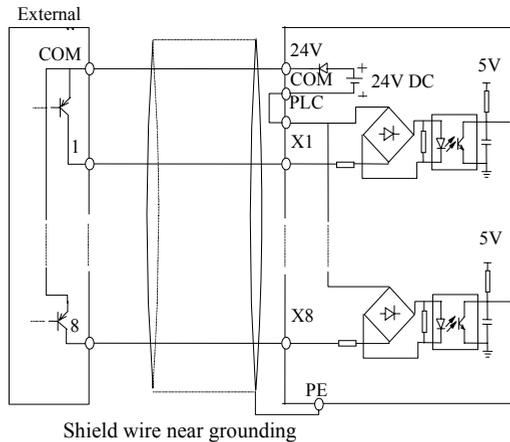

Fig 2-22 Method 2 of connections (b)
- 2) Ac drive's internal +24 V power supply is used and the external controller uses NPN transistors whose common emitters are connected, as shown in Figure 2-22 (Attention: be sure to disconnect the cable JP1 between PLC and 24 V for models of S2R4GB~3004GB, and disconnect the wiring cable between PLC and 24 V for models of 35R5GB/37R5PB~3500G, short circuit terminal PLC and COM).